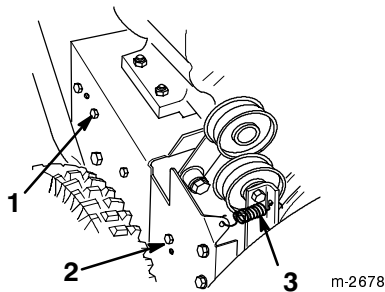

Figure 30
3. Loosen the auger brake arm assembly by loosening the rear screw and removing the front screw (Fig. 30).
4. Remove the idler pulley spring (Fig. 30). Let the brake arm assembly hang free but out of the way.
3. Loosen the auger brake arm assembly by loosening a rear screw and removing the front screw that fasten the auger brake arm assembly to the frame (Fig. 30).